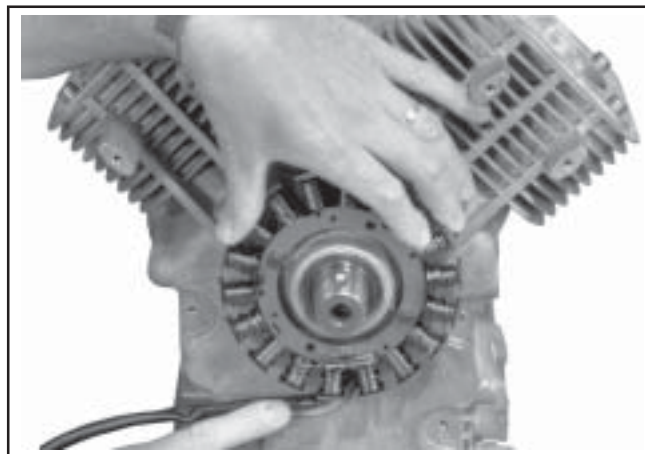

Figure 11-21. Route Stator Leads in Groove.
4. Route the stator leads in the crankcase channel, then install the backing plates and stator wire bracket (if used). Secure with the four hex flange screws. See Figures 11-21 and 11-22. Torque the screws to 7.3 N·m (65 in. lb.).